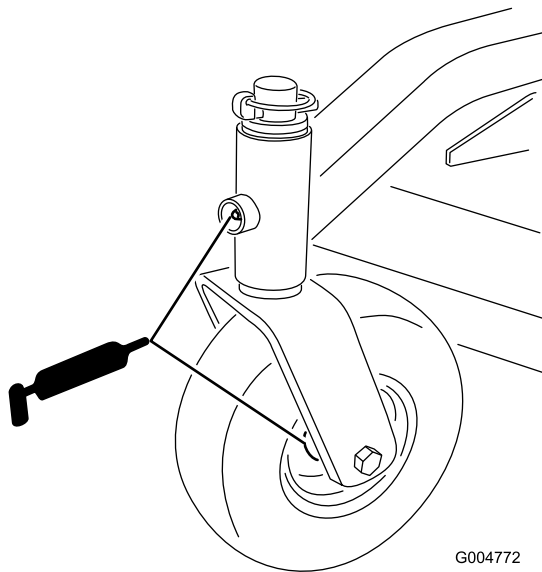

Figure 24
1. Lubricate the front caster wheel bearings and front pivots (Figure 24).
4. Remove the rear wheel grease cap. Lubricate the rear wheel bearing (Figure 24).